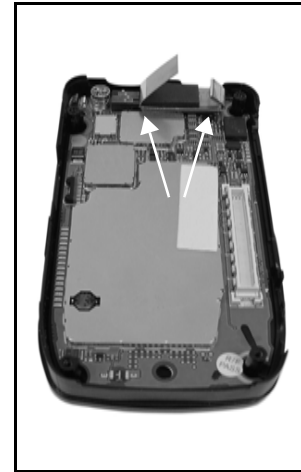

Figure 7-17.
3. Close flip. Place unit on flat surface. Gently align Flex Connector onto Keypad Board Flex receptacle (See Figure 7-17).